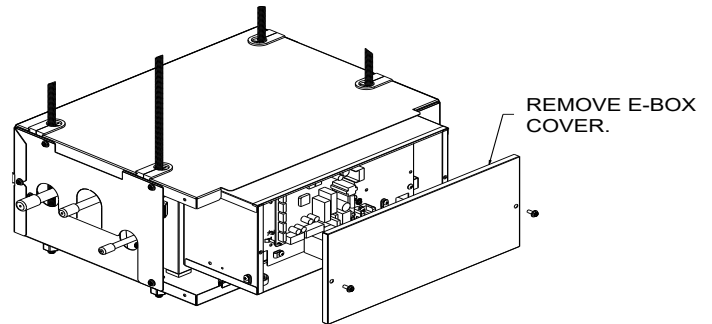

**FIGURE L.2**
- 4.1 Remove the E-box cover of the Valve Box by unscrewing the two screws securing the cover and set the cover and screws aside. (Refer to Fig. L.2.)